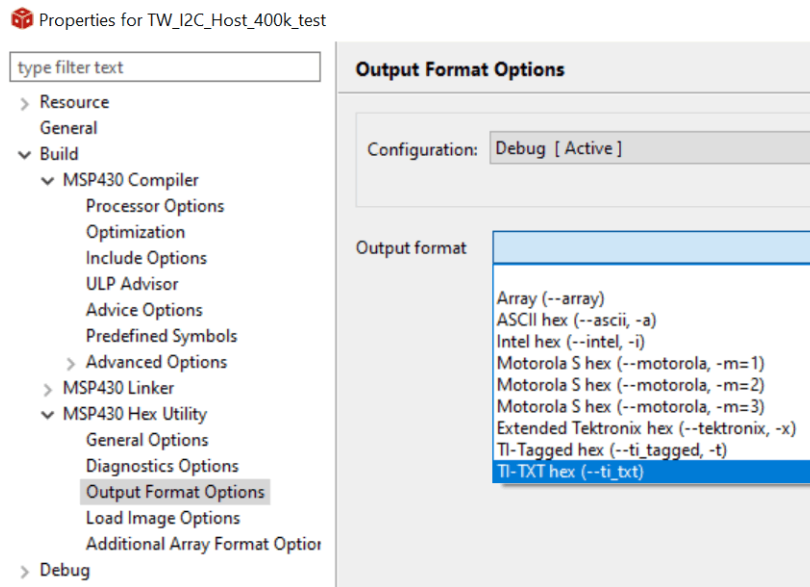

Figure 3-5. Generate TI-TXT Hex File in CCS
- Import the application code(here can use the demo `bsl_software_invoke_app_demo_uart`) into CCS and generate the target device firmware in TI-TXT hex format (see Figure 3-5).